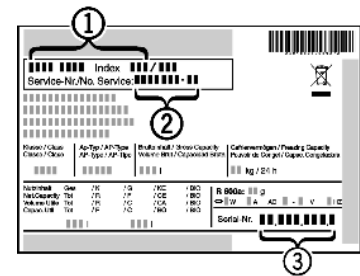

Fig. 8
- ▶ Read the appliance designation *Fig. 8 (1)*, service no. *Fig. 8 (2)* and serial no. *Fig. 8 (3)* from the rating plate. The rating plate is located inside the appliance on the left-hand side.
- ▶ Notify the Customer Service department, specifying the fault, appliance designation *Fig. 8 (1)*, service no. *Fig. 8 (2)* and serial *Fig. 8 (3)* no.